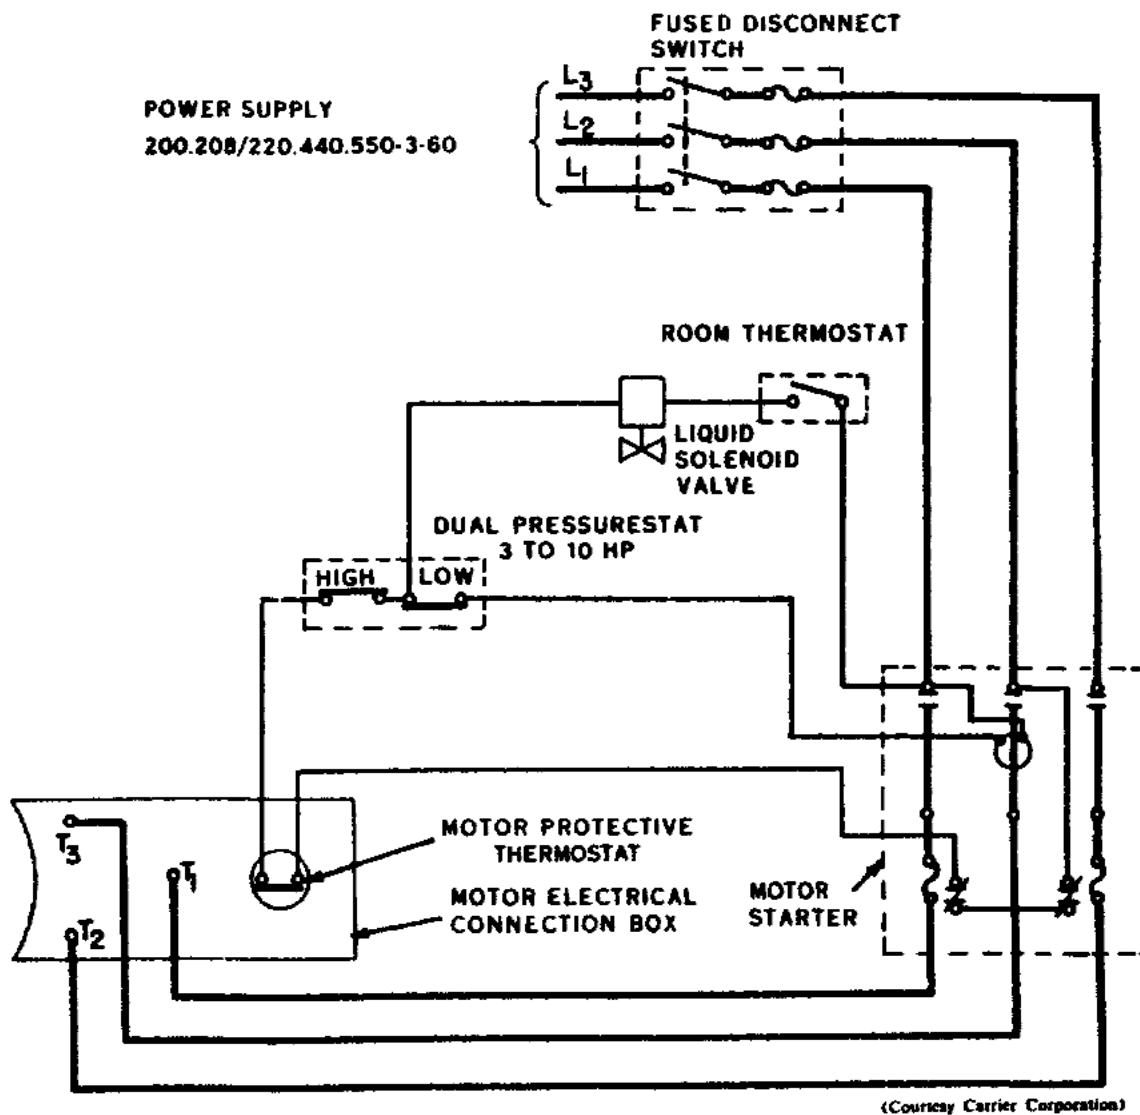

Figure 13. Three phase wiring diagram for a semihermetic condensing unit.
5. Before installing the unit, check the electric service to insure that it is adequate. The voltage at the motor terminals must not vary more than plus or minus 10 percent of the rated nameplate voltage requirement. Phase unbalance for three-phase units must not exceed 2 percent. Where an unbalance exists, you must connect the two lines with the higher amperages through the switch heater elements. Figure 13 shows a typical wiring diagram for a semihermetic condensing unit.
11. *Liquid line solenoid valve.* Many manufacturers use this type of valve on their units to prevent damage to the compressor which would result from flooding of the crankcase with refrigerant during shutdown. This type of valve also provides a compressor pump-down feature on many units. The valve is installed in the liquid refrigerant line directly ahead of the expansion valve. It must be installed in a vertical position and wired as shown in the wiring diagram (fig. 13).